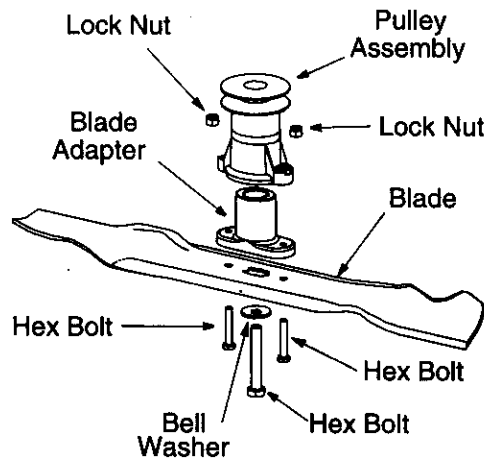

FIGURE 10
- Remove the bolt and bell washer which hold the blade-pulley assembly to the engine crankshaft. See Figure 10. Remove the assembly from the crankshaft.
- Install the blade adapter on the pulley with the "star" away from the pulley. See Figure 10.